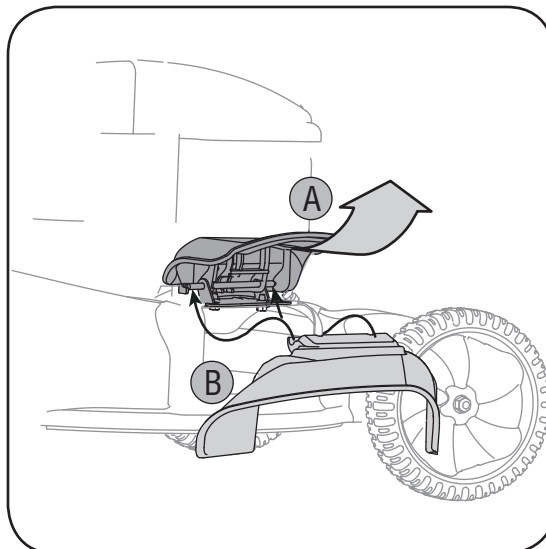

Figure 3-7: Lift mulch plug and install side discharge chute.
- b. Slide chute hooks under hinge pin on mulching plug assembly. Lower side mulching plug, Figure 3-7. Do not remove side mulching plug at any time, even when you are not mulching.